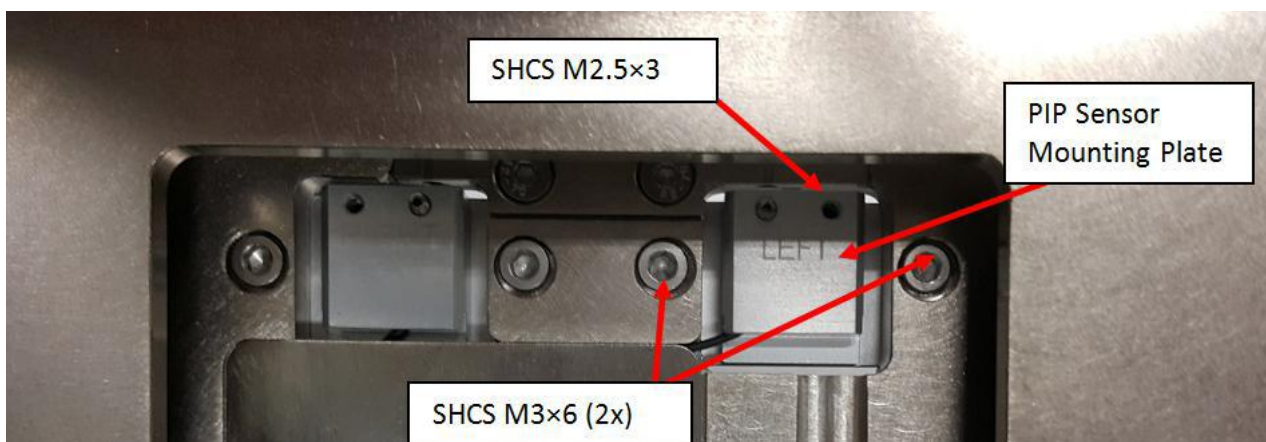
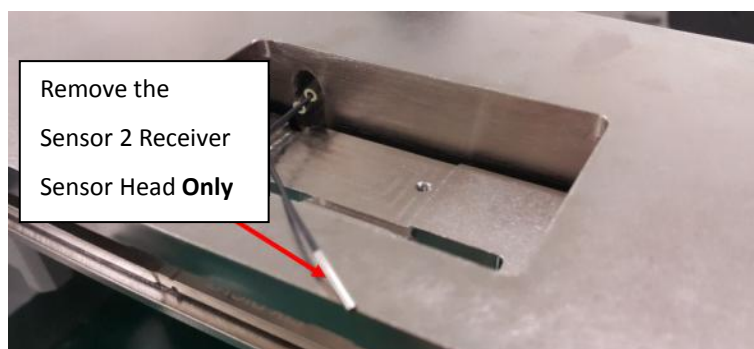

Figure 15 Sensor 2 Receiver
Figure 16 Sensor 2 Receiver
2. Remove SHCS M3×6 (2x) from Sensor 2 Receiver as shown in Figure 15. Loosen SHCS M2.5×3 as shown in Figure 15. Remove Optical Sensor 2 Receiver Head from pip sensor mounting plate as shown in Figure 16